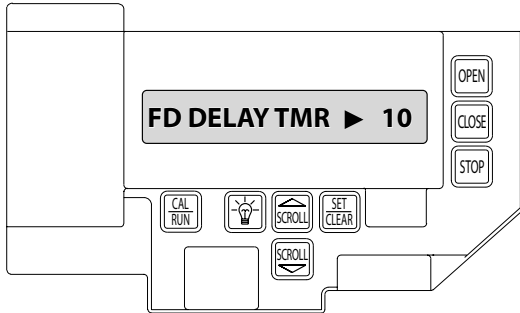

Fig. 11
- 2) Press SCROLL DN until display reads "FD DELAY TMR >." Fig. 11